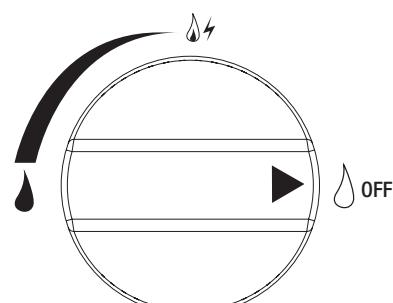

Figure 3
2. Make sure control knobs are "OFF ⚡" position. (Figure 3)
2. Control knob must be in the ⚡ (OFF) position. (Figure 3)